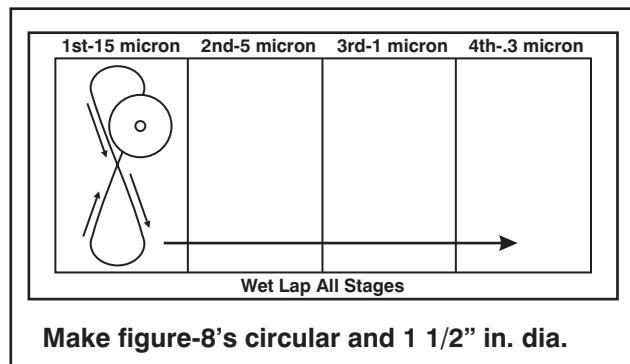

FIGURE 2 FIBER POLISHING
- 3.01 Insert connector ferrule into polishing puck and gently place onto 15 micron lapping film (see Figure 2). Using very light pressure, make 3 to 5 figure-8's until fiber
- 3.02 Repeat polishing using 5 micron lapping film (See Figure 2).
- 3.03 Repeat polishing using 1 micron lapping film (See Figure 2).
- 3.04 Repeat polishing using .3 micron lapping film (See Figure 2).